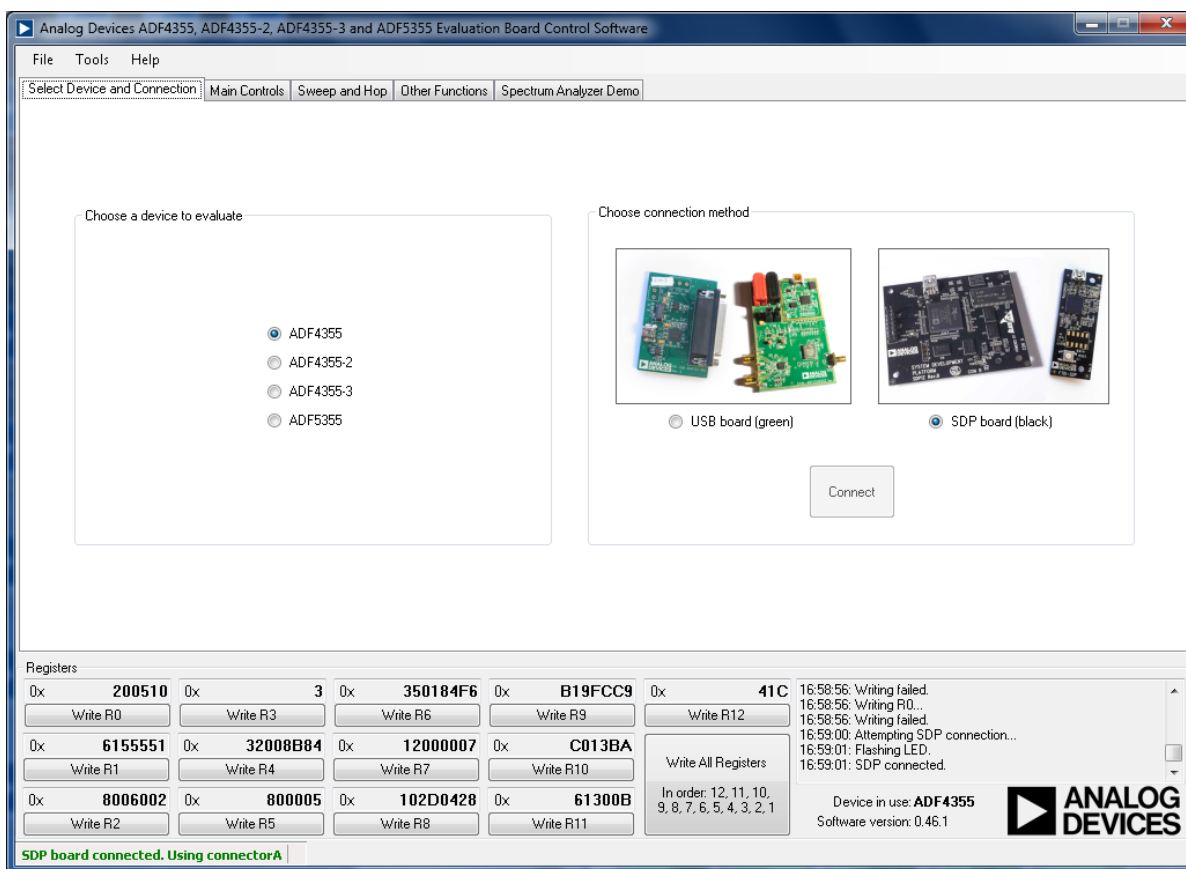

Figure 2. Software Front Panel Display—Select Device and Connection
2. On the **Select Device and Connection** tab, choose **ADF4355** and **SDP board (black)**, and then click **Connect** (see Figure 2).
8. Select **ADF4355** and **SDP board (black)** in the **Select Device and Connection** tab of the software front panel display window (see Figure 2).